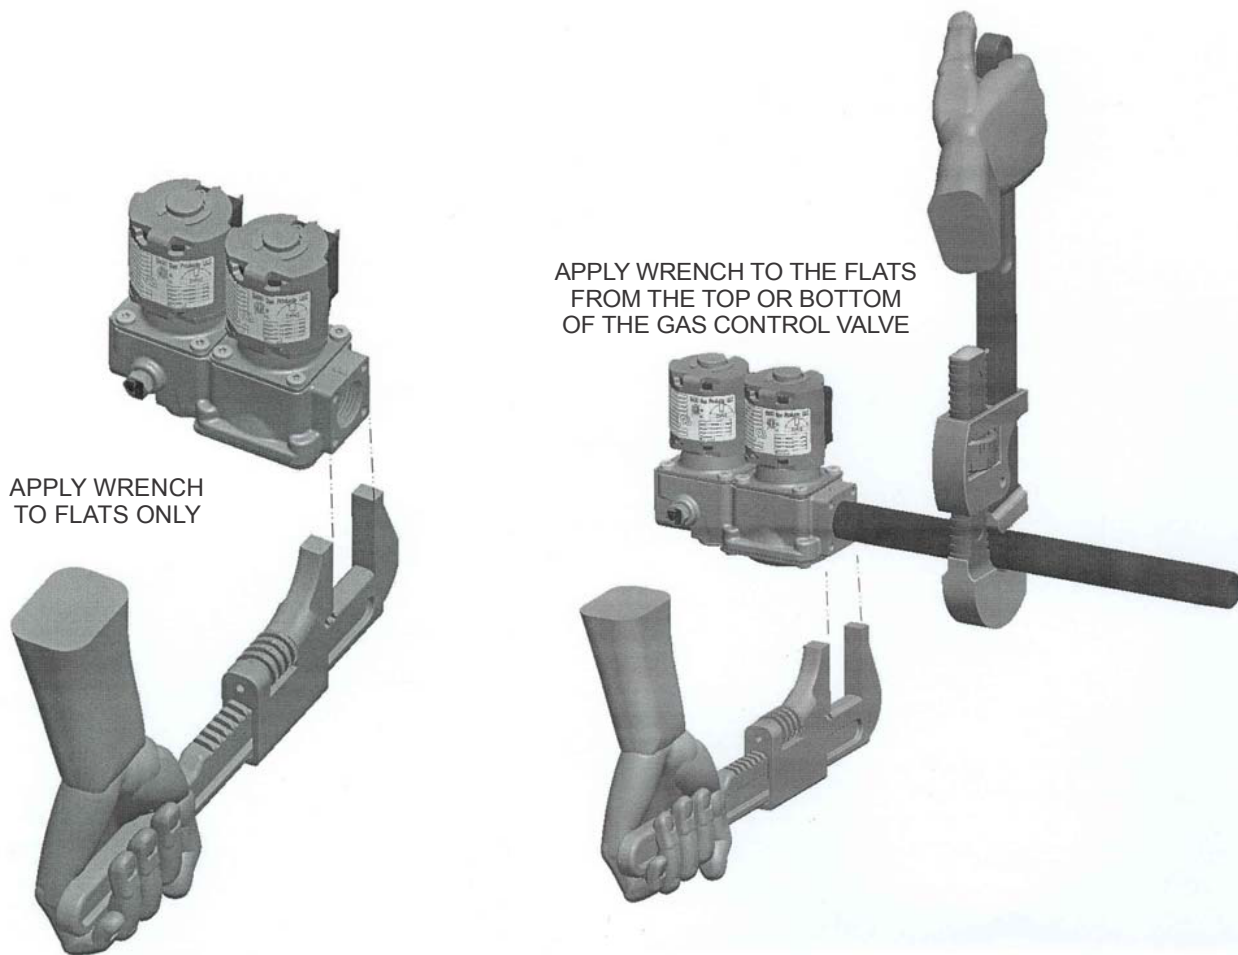

Figure 5: Proper Use of Wrench on Gas Control
- Ensure the gas flows through the valve body in the direction indicated by the arrow on the body. If the valve is installed with the gas flow in the opposite direction of the arrow, leakage can occur. Connect pipe to gas control inlet and outlet. Use a wrench on the square ends of the control. If a flange is used, place the wrench on the flange rather than on the controls. This process should be used for both the installation and removal of the valve in a gas system (see Figure 5).